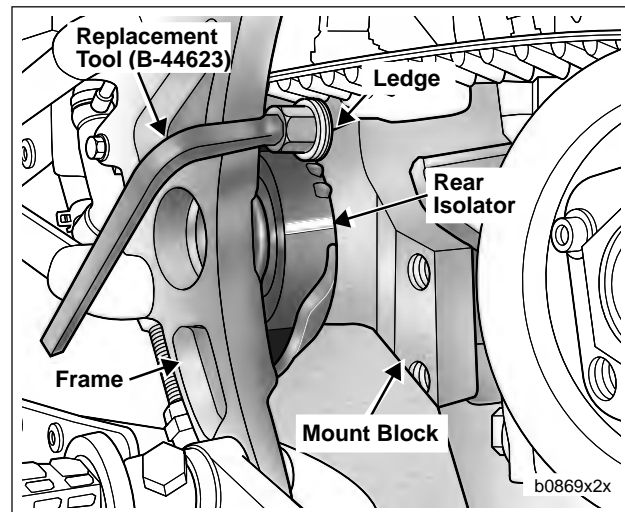

Figure 2-72. Rear Isolator Replacement Tool In Use
- See Figure 2-72. Working on the right side first, insert the REAR ISOLATOR REPLACEMENT TOOL (Part No. B-44623) between mount block and frame. NOTE: Ledge on tool should engage top of mount block.
- See Figure 2-72. On right side of motorcycle, insert rear isolator replacement tool between mount block and frame.